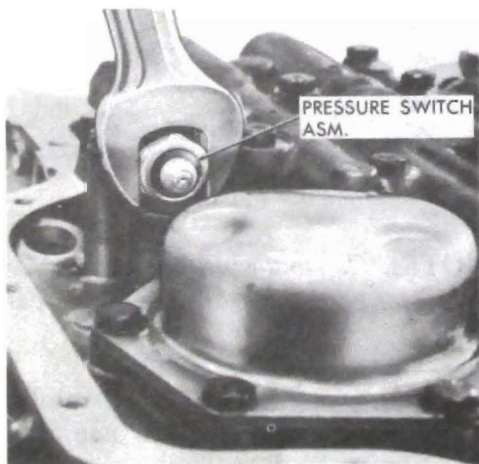

Figure 76-512B
2. If necessary, remove the pressure switch assembly. See Figure 76-512B.